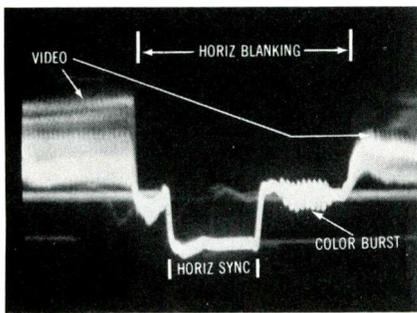

Fig. 12 This composite video waveform, obtained from the video detector, has been locked at 60 Hz and widened for clarity.
Fig. 13 Vertical equalizing pulses and sync pulses can be seen in a scope waveform or on the screen of the picture tube. (A) This waveform is the same as that in Fig. 12, except the scope is locked at 60 Hz. (B) The same vertical equalizing and sync pulses can be seen on the screen of a picture tube, when the picture is rolled downward. A method of visually analyzing the "hammer" is given in the text. An apparent difference is shown by these two pictures. The equalizing and sync pulses are in groups of three in the hammer, but the scope waveform shows them in groups of six. There are really two hammers, one for each interlaced vertical field; however, one cannot be seen on this CRT because it occurs during horizontal retrace. The scope waveform shows the pulses of both fields. Because of the phase difference between the two interlaced vertical fields, there appears to be twice as many pulses in them as there are ordinary pulses during an equal amount of time. This distinction is important in understanding the symptoms produced by certain defects.
The various elements which together are the composite video waveform are shown in Fig. 12 as they appear on the screen of a scope which is locked to the horizontal scanning frequency. For increased clarity, the waveform has been widened by the 5X-sweep feature of a triggered-sweep scope.